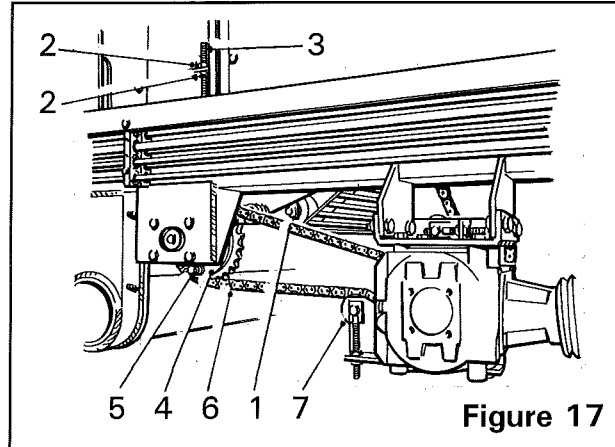

Figure 17
To accommodate the variation in web length that occurs when raising and lowering the cleaner unit, the web is fitted with a pair of spring loaded tension rollers (*item 1, figure 17*). The pressure exerted by the tension rollers should be set with the cleaner in its mid-angle position after the web has been tracked with the cleaner fully raised. The tension rollers are adjusted by turning the locknuts (*item 2, figure 17*) to reposition the spring adjusters (*item 3, figure 17*).
The second web is chain driven via a spring-loaded slip clutch (*item 4, figure 17*) which is fitted to protect the web should any major blockage occur. The amount of torque required to start the clutch slipping can be varied by turning the six adjusting bolts (*item 5, figure 17*). The clutch should be set to just drive without slipping under normal conditions. Ensure all six bolts are adjusted equally.
The second web drive chain (*item 6, figure 17*) is fitted with a tension roller (*item 7, figure 17*) which should be checked regularly and adjusted as required.